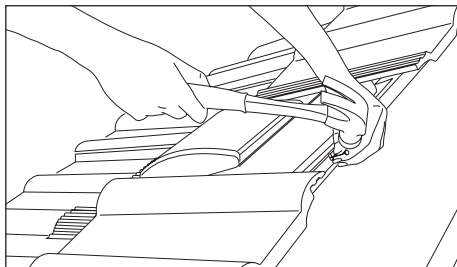

Fig. 3
- 5 Place the tile vent into position centrally over the **overall** width of the tile below, ensuring the 'nib' is resting squarely against the back face of the tiling batten. Secure the vent tile by nailing through the slot in the 'nib' into the back face of the tiling batten using a 25mm long x 3mm dia. non-corrosive nail (galvanised steel, aluminium or stainless steel) (Fig. 3).